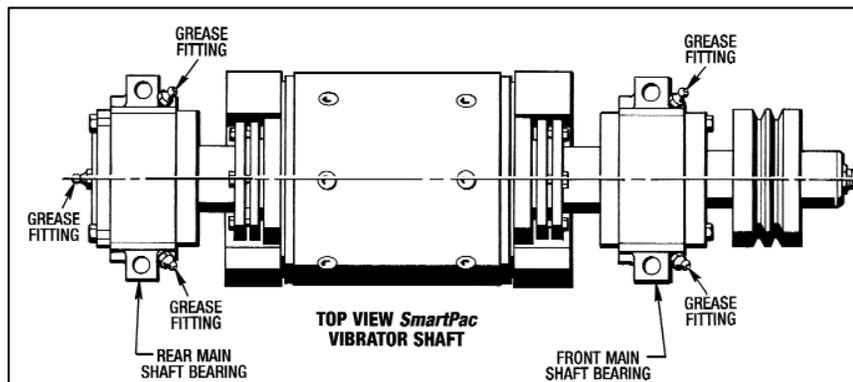

Figure 5.1 - Main Shaft Bearing Lubrication
15. Lubricate each Main Shaft Bearing Housing every 8 hours with 1 fluid ounce of NLGI Rated Synthetic, Grade 2 Extreme Pressure Grease. See Figure 5.1 for location of grease fittings.
(See Figure 5.1)